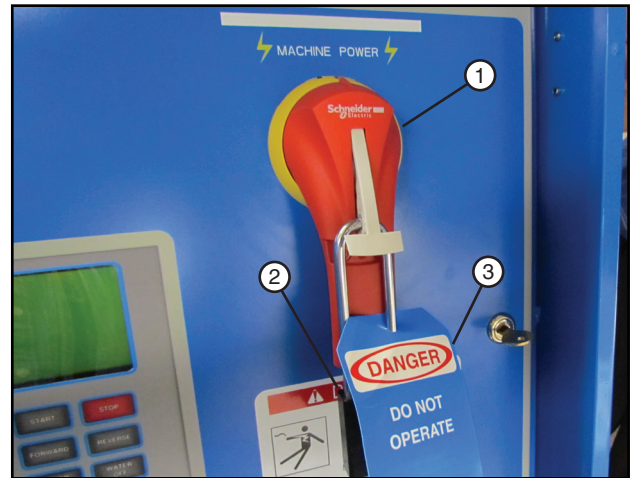

Figure 91-2 1. Main Disconnect
2. SHUT OFF and lock the control panel main power disconnect. See figure 91-2.
FILL OUT the blue (OSHA safety color code) tag and attach to the disconnect after locking. See figure 91-2.